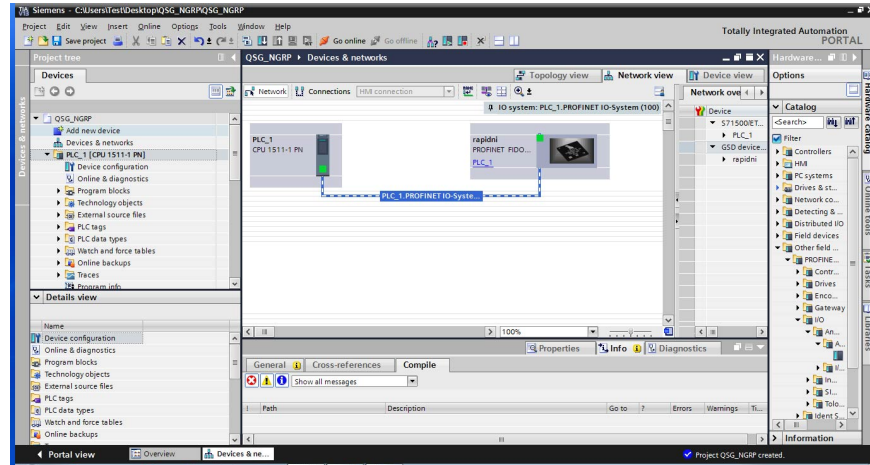

Figure 84. PROFINET Network Created
5. Click this yellow pop-up to connect the network by using the green line (see Figure 84).
1. Double-click the **PLC_1** icon shown in Figure 84.
1. Within the **Network Overview** pane (see Figure 84), go to **GSD_device > rapidni** to display the **16-bit Digital I/O** module.